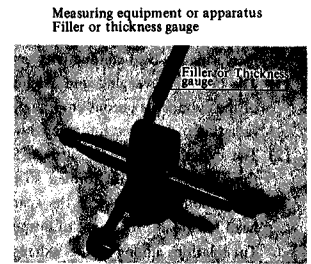

Fig. 5
(2) Clearance between crankshaft and connecting rod big end. (End play of big end) (Fig. 5)